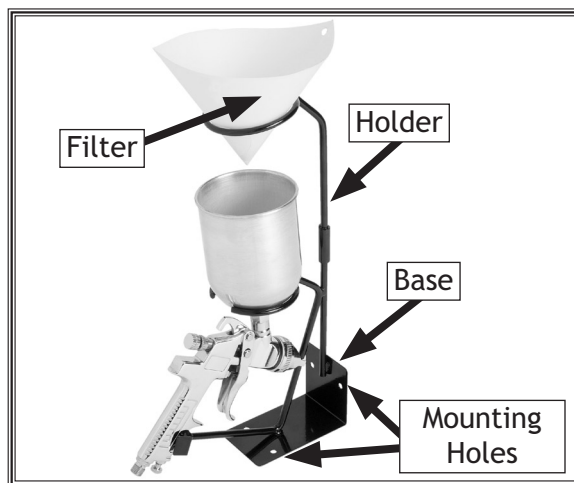

Figure 2. Model W1800 setup to filter paint.
**Note:** Consider mounting the base to the front of a workbench with the rings facing out for convenience. This also ensures that a spray gun equipped with a pressure gauge or adapter will not hit the bench when mounted on the holder, as shown in Figure 2.
1. Assemble the base and holder, then position the spray gun and filter (not included), as shown in Figure 2.